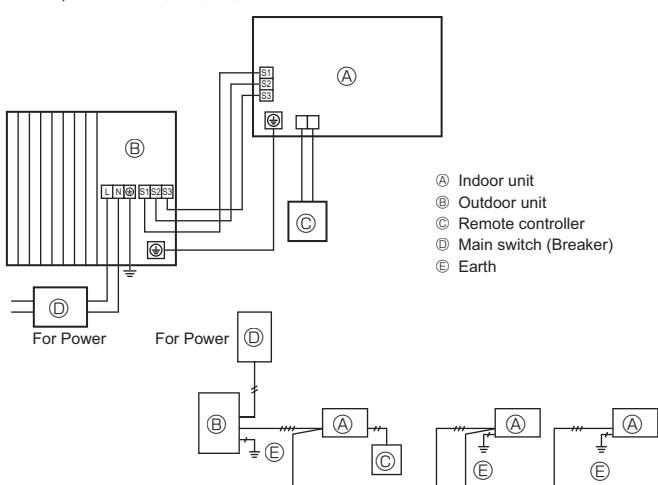

Fig. 6-1
6.1. Outdoor unit (Fig. 6-1, Fig. 6-2)
- ① Remove the service panel.
- ② Wire the cables referring to the Fig. 6-1 and the Fig. 6-2.
- ③ Except PEA-RP200, 250, 400, 500GA